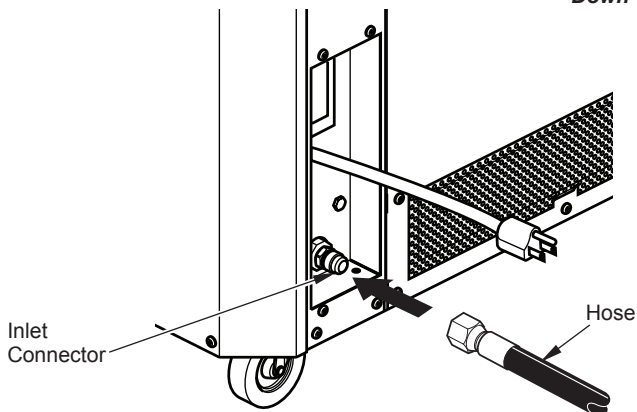

Figure 8 - Hose and Inlet Connector
3. Connect hose to inlet connector (see Figure 8). Tighten firmly using a wrench.